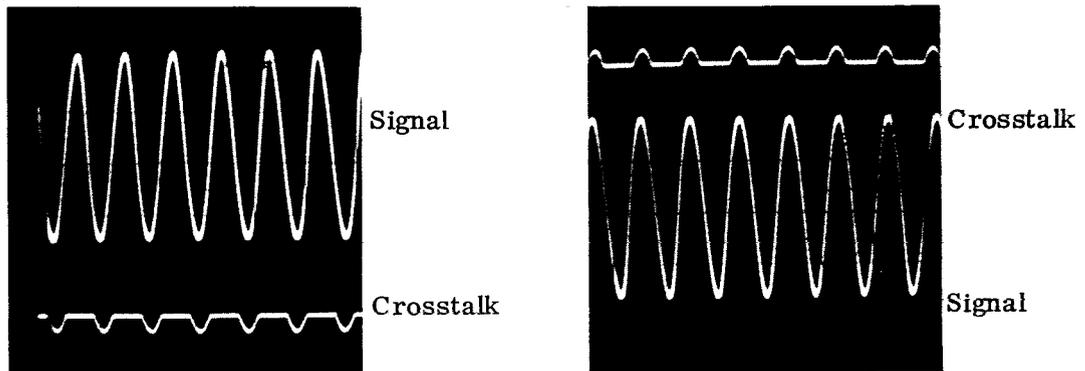

Fig. 7.3
- (c) Lace up and play the Dolby tone side of the Dolby test film Cat. No. 69. Select Proj. 1 on the Facilities Module (23), and adjust left and right optical pre-amplifier gain controls (1) so the meters (5) and (7) read approximately Dolby Level. (Ignore centre channel meter (4)). Operate change-over module (3) red switch to select standby optical pre-amplifier (2) and repeat gain adjustments. This is an approximate setting only, and will be repeated later.
- (d) Connect the two inputs of the dual beam oscilloscope to the left and right outputs on the CP100. Press the Processing Bypass red button on the Facilities module (23) to connect the optical pre-amplifier outputs directly to the output terminals. (Note: the levels at the output terminals may change significantly as the Bypass red button is pressed). Lace and play the stereo cell alignment film Cat. No. 97. Move cell to and fro across film plane until there is a minimum crosstalk Left to Right and Right to Left (it should be possible to achieve better than 20 dB separation each way). The oscilloscope traces will be similar to Fig. 7.3. It may be necessary to stop the projector to make these adjustments.